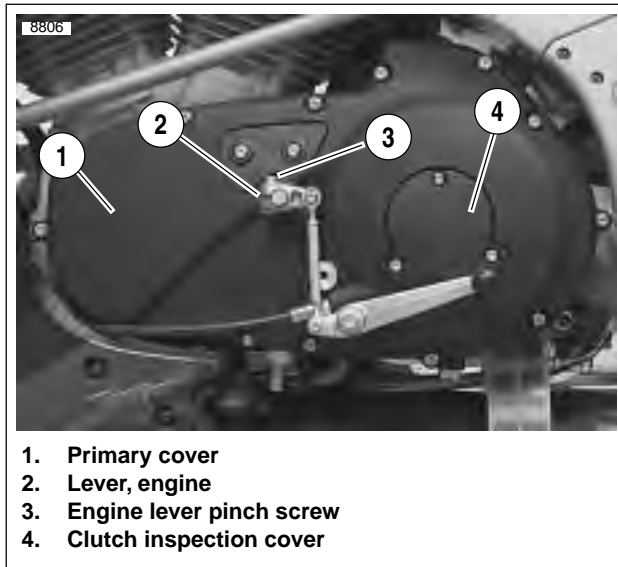

Figure 6-7. Installing Primary Cover
11. See Figure 6-7. Install clutch inspection cover (4) with **new** gasket and three TORX screws with washers. Tighten screws in a crosswise pattern to **84-108 in-lbs** (9.5-12.2 Nm).